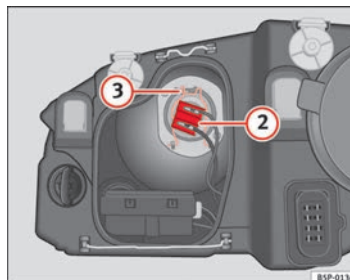

Fig. 180 Dipped beam headlights
- Remove connector ⇒ Fig. 180 ② from the bulb.
- Unclip the retainer spring ⇒ Fig. 180 ③ pressing inwards to the right.